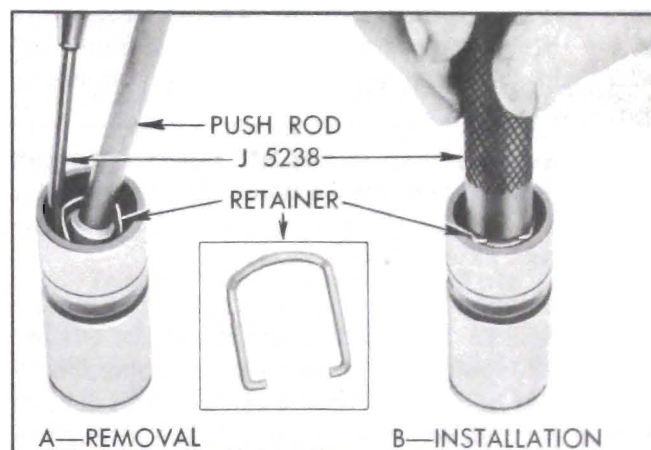

Figure 2-30—Removing and Installing Plunger Retainer
1. Disassemble each valve lifter by using a push rod to hold down the push rod seat while removing the plunger retainer from the lifter body, using Retainer Remover J-5238. See Figure 2-30, View A. Remove push rod seat and plunger from lifter body.